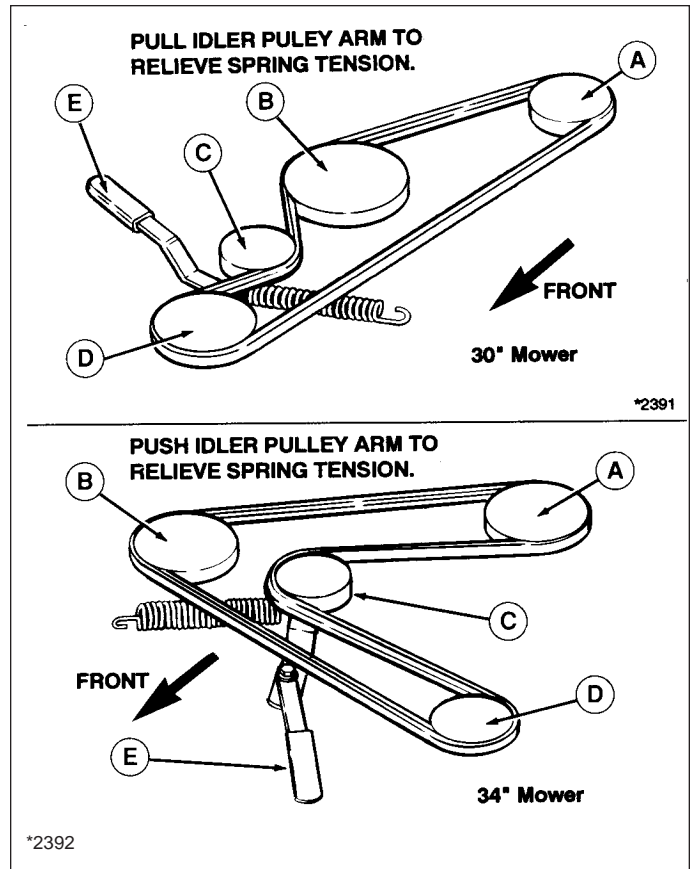
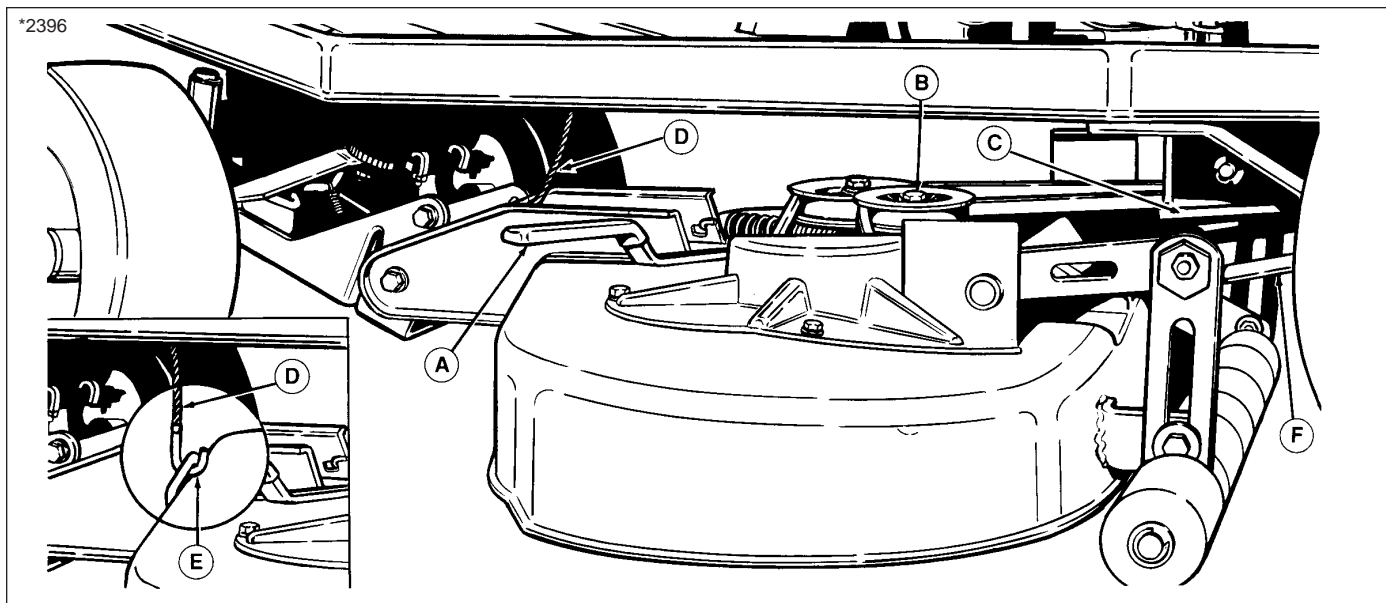

Figure 5. Mower Belt Pattern
Figure 7. Mower Removal/Installation (34" mower shown)
NOTE: Perform mower installation on a hard, level surface such as a concrete floor. For easier mower removal and installation, rear trailing arms (F, Figure 7) can be removed by removing spring clips and clevis pins.
2. On left-hand side of 34" mower, push idler pulley arm (A, Figure 7) to relieve belt tension.
3. With belt tension relieved, remove belt from idler pulley (B, Figure 7) and PTO pulley (C). Removing belt relieves tension on the front hitch assembly.
4. With lift lever down and Dial-A-Cut™ control set to the lowest setting, remove lift cable (D, Figure 7) from mower hook (see inset illustration, Figure 7).
7. To install mower, reverse above steps. Check mower belt pattern (as shown in Figure 5). Make sure that the mower lift cable is installed with hook toward the rear (see Figure 7 inset) and rear trailing arms (F, Figure 7) are positioned above rear torsion bar.